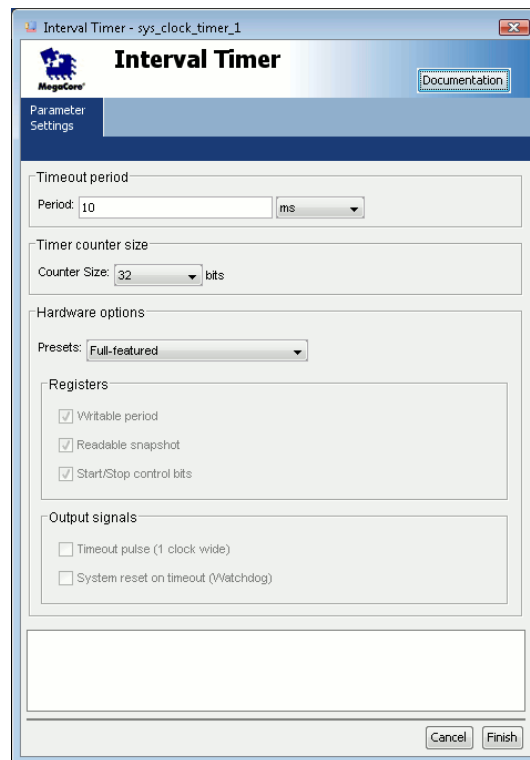

Figure 1.3: When creating `sys_clk_timer_1`, use a 10 ms periods.
11. Add an Interval Timer component (you can find it under the “Other” tab of SOPCBuilder) named `sys_clk_timer_1`. Set the period to 10 ms. This timer is required by the Altera HAL for the system clock (see Figure 1.3).